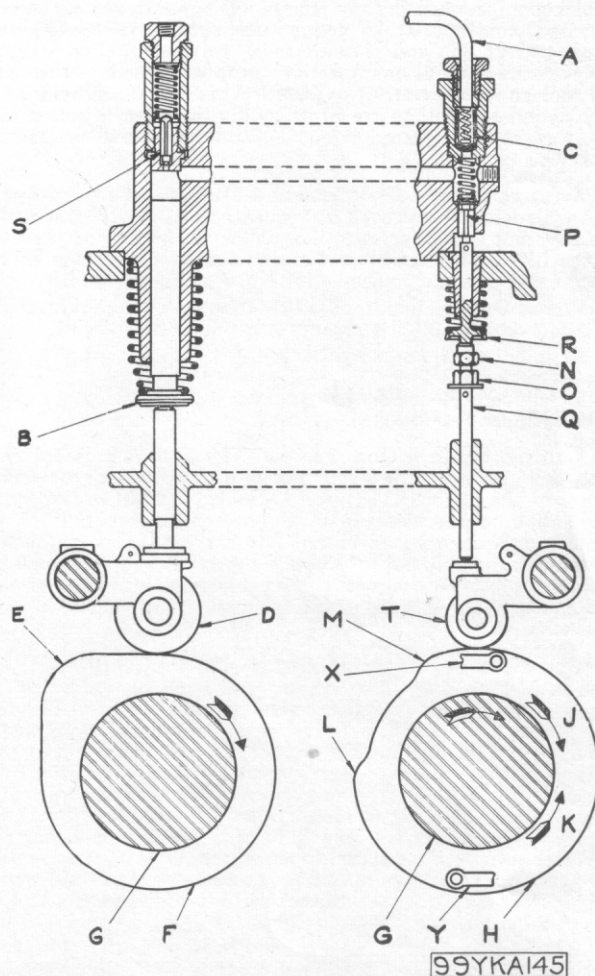

Fig. 1. Injection Pump and Governor Cam Diagram
Index to Diagrams—The following parts are indicated on Figs. 1 and 2 to illustrate the discussion of the fuel injection and governing system.
- (R) Injection pump suction upper push rod stem.
- (S) Relief valve.
- (T) Governor cam roller.
- (U) Governor weight; centrifugal force throws the weight out.
- (V) Pivot of the governor weight.
- (W) Governor spring adjusting screw; tighten to increase the speed and loosen to decrease the speed.
- (X) & (Y) Governor weight to governor cam links.
- (Z) Governor spider, with governor weights, clamped in fixed relation to the crankshaft.
Fuel Injection System—The fuel injection system includes the individual injection pumps, fuel tubes, and differential fuel injection valves for each cylinder, also the driving and control mechanism for operating the pumps. The pumps are of the cam operated, constant stroke design with suction valves (P), discharge valves (C), and pressure relief valves (S). Fig. 1 shows the essential parts of one injection pump with the injection cam (F) and governor cam (H). Identical pumps are provided for each cylinder, but they are all driven by the same injection cam (F), rockers being placed at equal distances around the cam to make this possible.